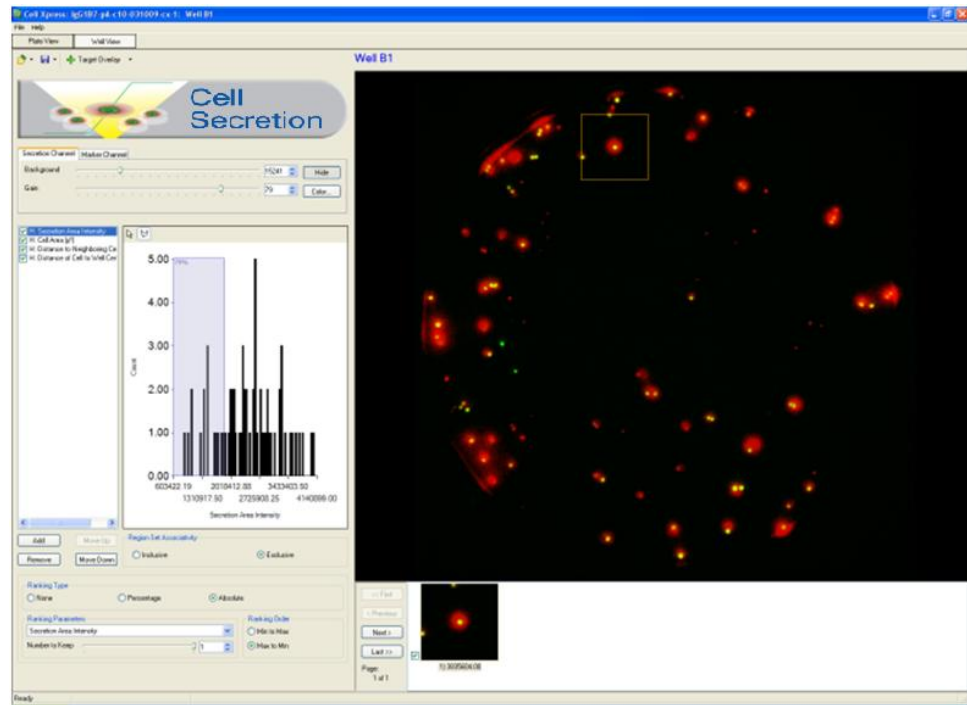

Fig. 2. Whole-Well View of Cell Population Secreting Mouse Antibodies. Highest secreting cell outlined as well as displayed below whole well view.
The Cell Secretion Kit includes a multi-step process that includes: (1) *In situ* capture and labeling of secreted protein product (Fig. 1); (2) high-throughput fluorescent imaging of the well; and (3) image analysis for identification, classification, and analysis of each individual secreting cell (Fig. 2, 3).